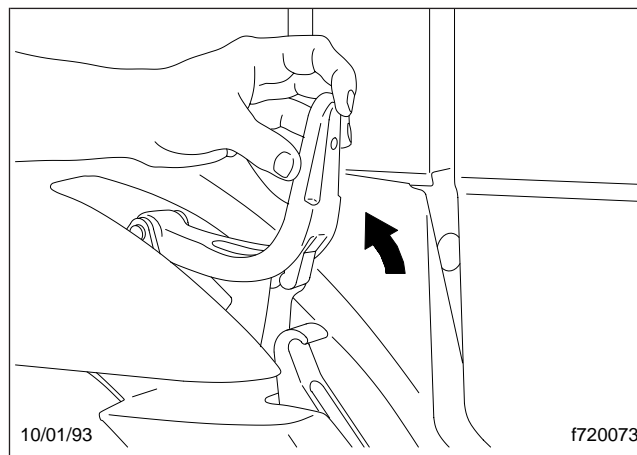

Fig. 2.30, Unlatch the Hood
2. Release both hood hold-down latches by pulling the ends up. See Fig. 2.30.